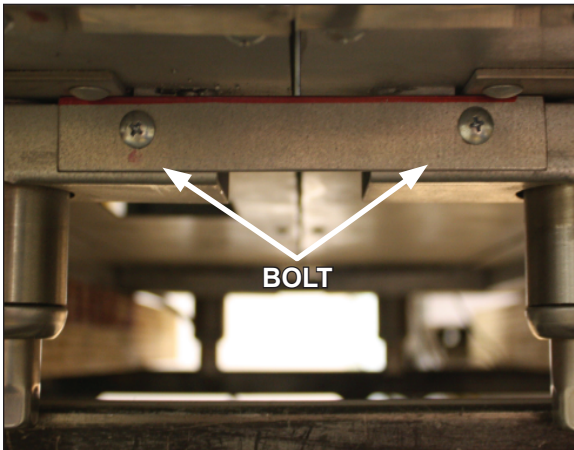
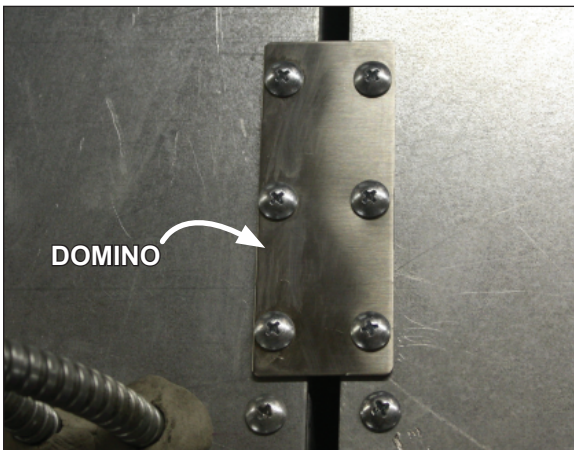

Fig. 3 Horizontal base bracket
Fig. 4 Domino bracket
3. Bolt the base brackets to the bottom outside-front and back of both line-up cases (Fig. 3). Repeat this with the domino brackets to the top of the cases ensuring that brackets are fastened to both cases securely (Fig. 4).